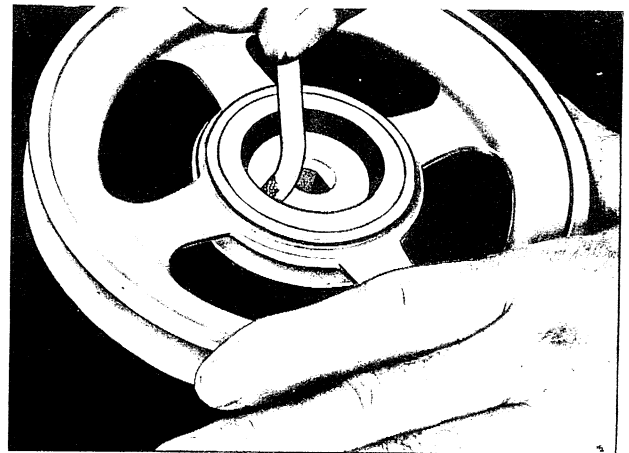

Figure 111
7. Remove the inoperative pulley seal carefully to avoid damaging the base or sides of the pulley bore. An easy method of prying this seal out is by using an offset screwdriver, *Figure 111*. Be sure to place a steel washer at least 1 1/4" in diameter in the base of the pulley so that the offset screwdriver does not deface the surface of the bore base. Work the screwdriver as a pry around the entire circumference of the seal prying it out evenly.